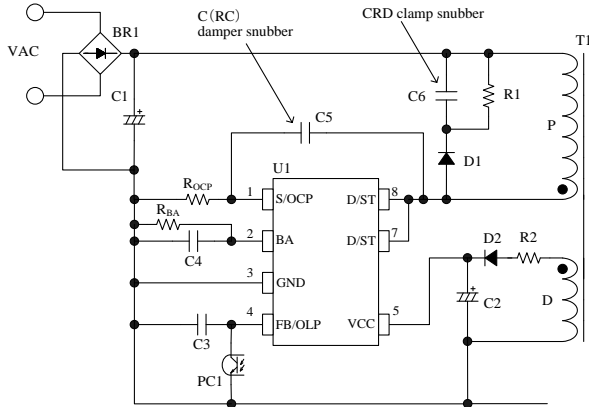

Figure 10-1. IC Peripheral Circuit
In Figure 10-1, R_{OCP} is the resistor for the current detection. A high frequency switching current flows to R_{OCP}, and may cause poor operation if a high inductance resistor is used. Choose a low inductance and high surge-tolerant type.
- The value of C₂ is generally recommended to be 10 μF to 47 μF (see Section 9.1 Startup Operation, because the startup time is determined by the value of C₂). In actual power supply circuits, there are cases in which the VCC pin voltage fluctuates in proportion to the output current, I_{OUT} (see Figure 10-1), and the Overvoltage Protection (OVP) on the VCC pin may be activated. This happens because C₂ is charged to a peak voltage on the auxiliary winding D, which is caused by the transient surge voltage coupled from the primary winding when the power MOSFET turns off. For alleviating C₂ peak charging, it is effective to add some value R₂, of several tenths of ohms to several ohms, in series with D₂ (see Figure 10-1). The optimal value of R₂ should be determined using a transformer matching what will be used in the actual application, because the variation of the auxiliary winding voltage is affected by the transformer structural design.
In case the surge voltage of V_{DS} is large, the circuit should be added as follows (see Figure 10-1);